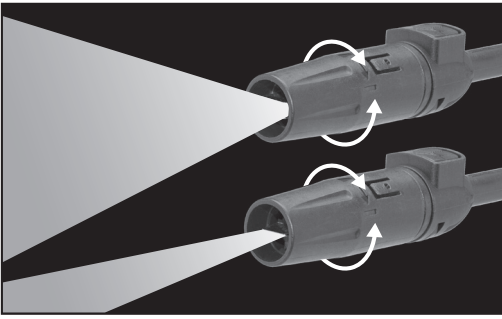

FIG. 6
7.1 SELECTING THE NOZZLE PATTERN FIG. 6